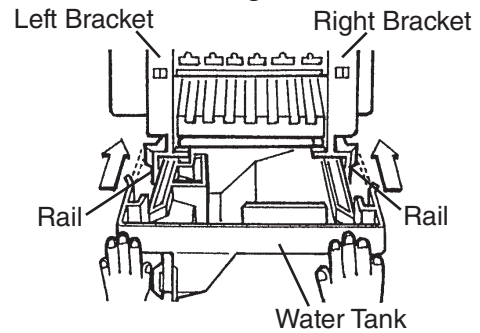

Fig. 46
- 14) Slide in the water tank along the rails at the bottom of the left and right brackets until it locks into place. See Fig. 46.